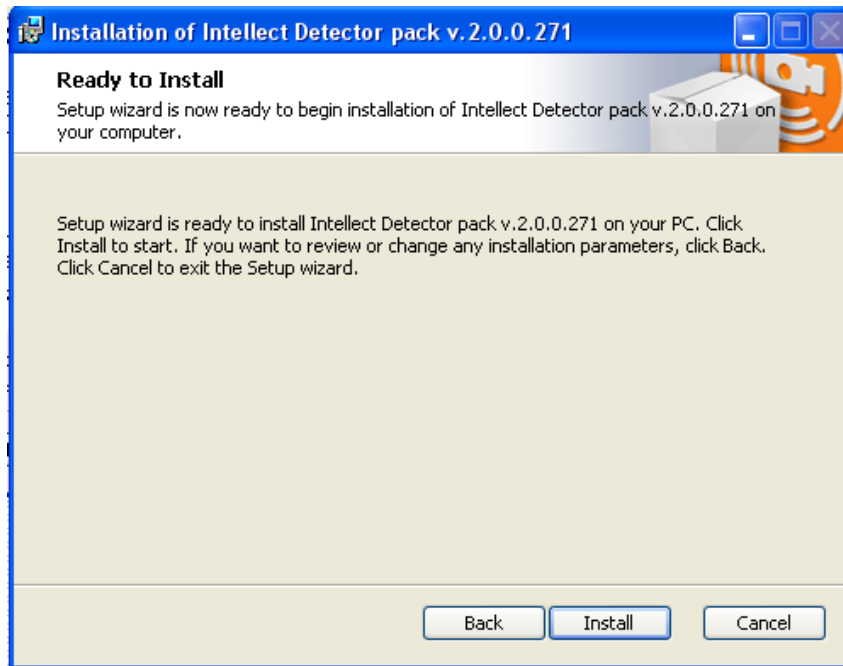

Fig. 5.2—5 Ready to install window
6. Click **Install** (Fig. 5.2—5).